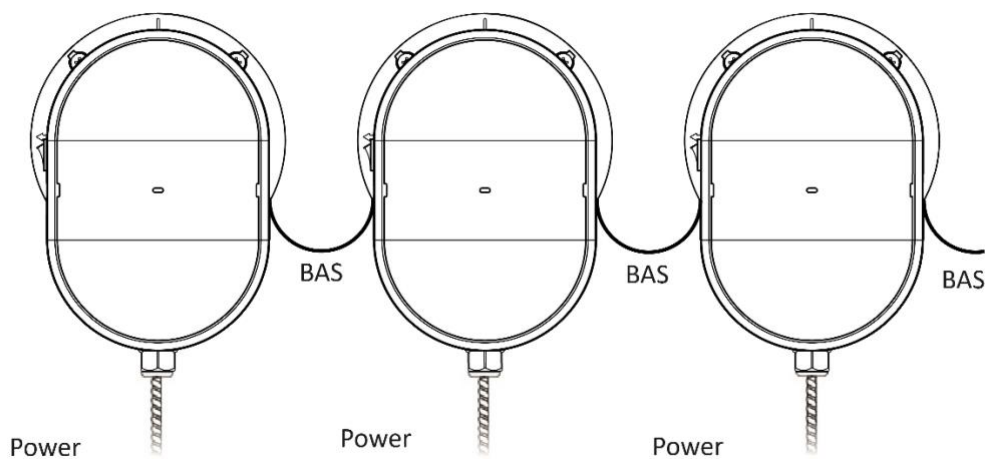

Figure 6: (Optional) multiple units can be daisy chained together by means of RJ-45 cabling.
- j. (Optional) Multiple units can be daisy chained together by means of RJ-45 cabling (Figure 6).